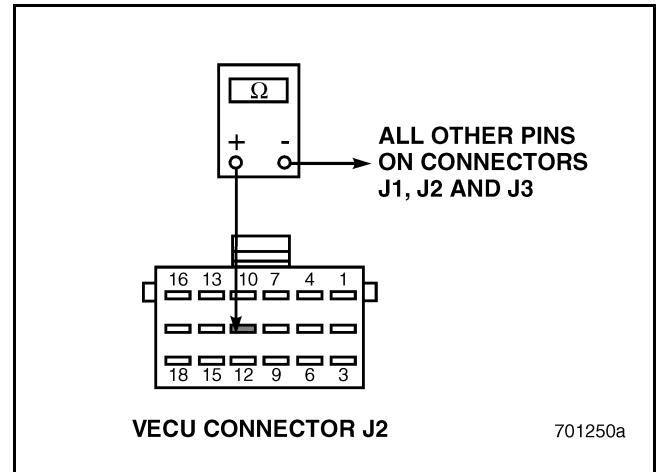

Figure 452
4. Check for continuity between VECU connector J2 pin 11 and all the other pins on VECU connectors J1, J2 and J3 (see Figure 452).